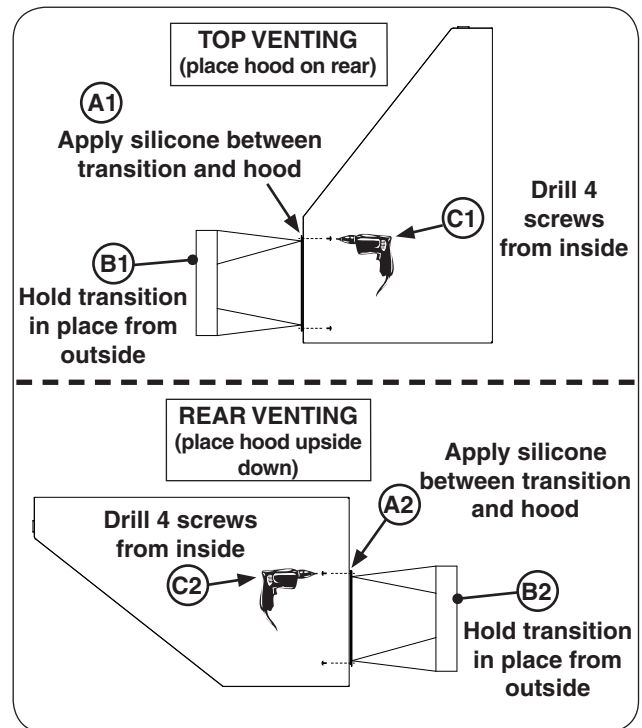

Fig. 14-2 Install transition
3. Apply a bead of silicone along the bottom of the mounting flange of the transition (see Fig. 14-2, A).
4. Position the transition in place and secure using a power drill with a 1/4" hex driver (or a 1/4" nut driver) and the (4) supplied #6 x 3/8" hex head screws. Reach into and fasten the screws from inside the vent hood. (An additional person should hold the transition in place while it is being fastened.) See Fig. 14-2, B-C.